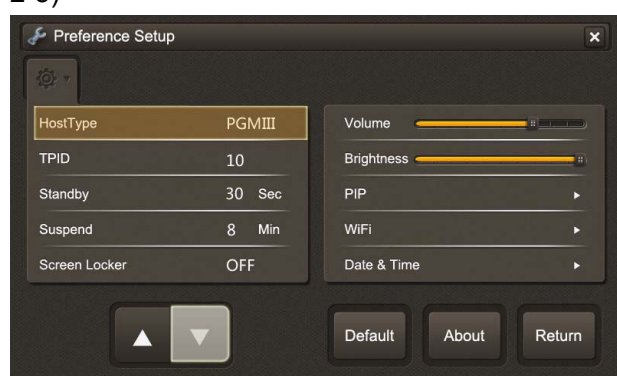

Figure 2-5
7. Select the options need modify, click on the upper and lower button below to modify. For big changes, user can long press the upper and lower button to achieve. (Figure 2-5)